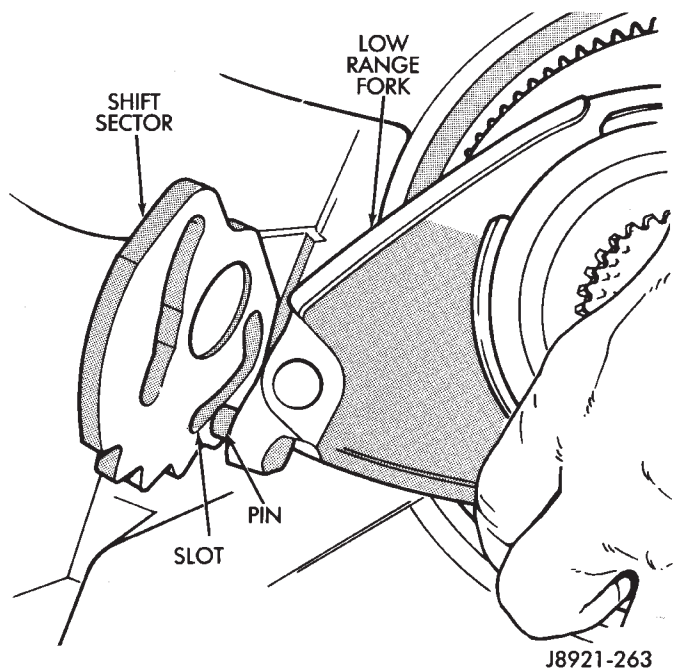

Fig. 65 Positioning Low Range Fork
- (5) Position low range fork and hub in case. Be sure low range fork pin is engaged in shift sector slot (Fig. 65).